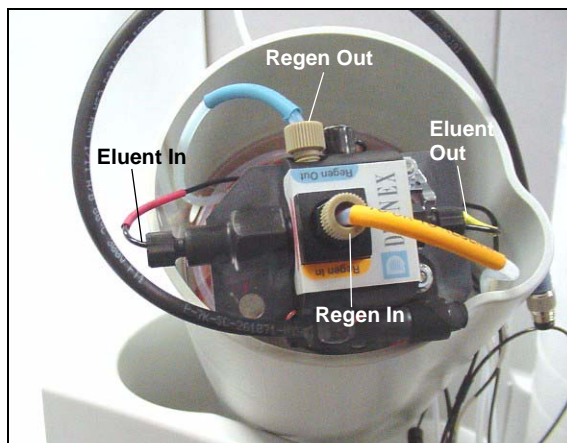

Figure 34. Plumbed CR-TC
4. With the CR-TC oriented as shown in Figure 34, connect each line to the corresponding port on the CR-TC.